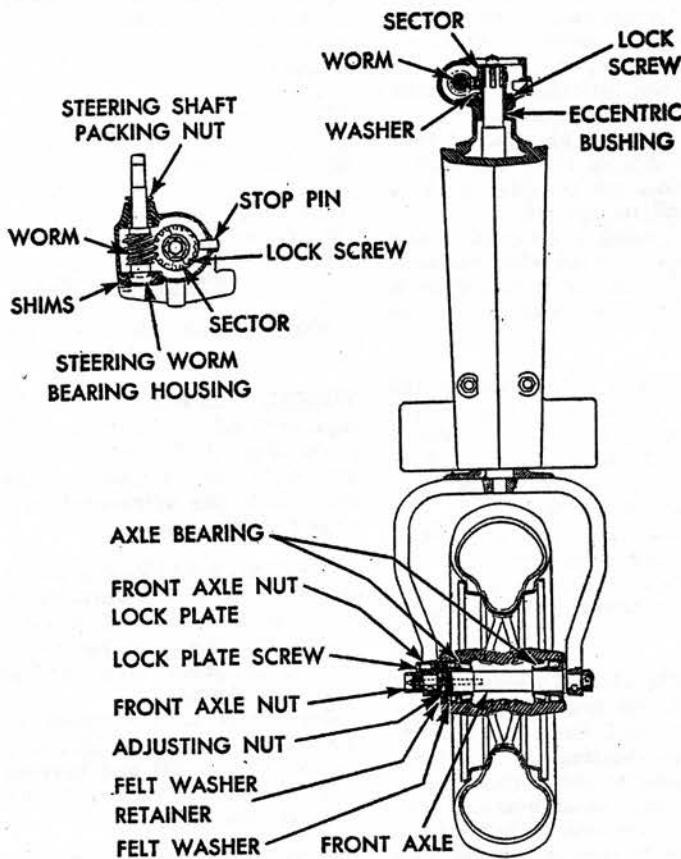

Fig. 52 Front suspension and steering gear. Typical of Series A, B, G, H with single front wheel
**WHEEL BEARINGS**—To adjust bearings, back off the front bearing lock plate screw, Fig. 52. Tighten the adjusting nut until wheel rotates freely but without end play. Lock the adjustment in the notch closest to this position.
**STEERING SHAFT**—Fig. 52. To remove the steering shaft (wormshaft), remove the steering wheel and pedestal housing cover. Remove steering shaft bearing housing and gasket shims. Pull shaft from front of pedestal.